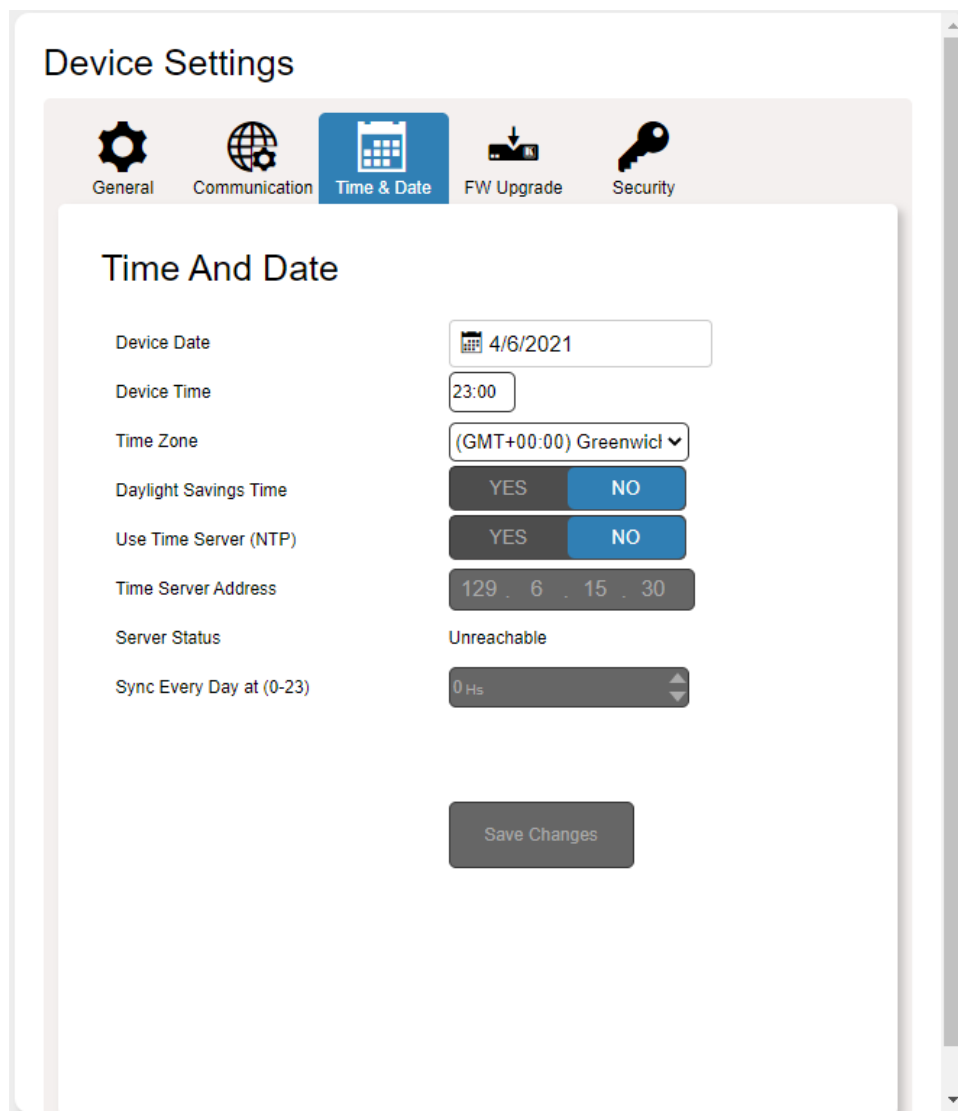

Figure 25: Device Settings Page – Time and Date Tab
2. Select the Time & Date tab. The Time & Date tab appears (Figure 25).